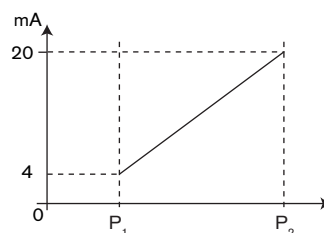

Fig. 55: 4-20 mA current depending on the PV selected
**4mA:** Choose the value of the process input previously selected, associated with a current of 4 mA, for each current output. See Fig. 55.
**20mA:** Choose the value of the process input previously selected, associated with a current of 20 mA, for each current output. See Fig. 55